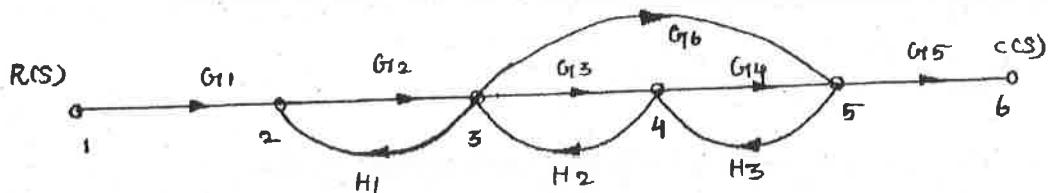

Fig. 2
- (b) (i) Write the rule for eliminating negative and positive feedback in block diagram reduction. (4)
(ii) The signal flow graph for a feed back control system is shown in Fig. 2. Determine the closed loop transfer function $C(s)/R(s)$. (12)